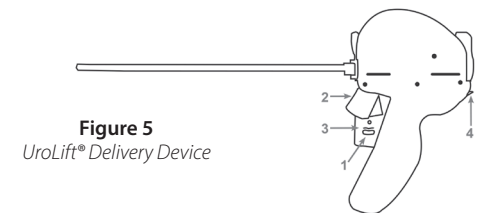

Figure 5
- 3.1 Unlock the Needle Safety Lock (Step 1, Figure 5).
- 3.2 Lightly depress the Needle Trigger to deploy the needle (Step 2, Figure 5).
- 3.3 After the needle is fully deployed, depress the Retraction Lever (Step 3, Figure 5) fully to retract needle and deploy Capsular Tab. Squeeze the Retraction Lever again to ensure complete retraction. By this action, the Capsular Tab is delivered from the tip of the extended needle and is then tensioned back towards the prostatic capsule until it seats on the capsular surface. The Needle is now in the retracted (not exposed) position and is contained within the Delivery Device. If complete retraction is not achieved, follow Step 5.1 to manually release the Retraction Lever.
⚠ **CAUTION:** Avoid contact with the Urethral Release button when depressing the Retraction Lever. Contact with the Urethral Release button (Step 4, Figure 5) while depressing the Retraction Lever may result in inadvertent deployment of the Urethral End-Piece and unintentionally cutting the suture.